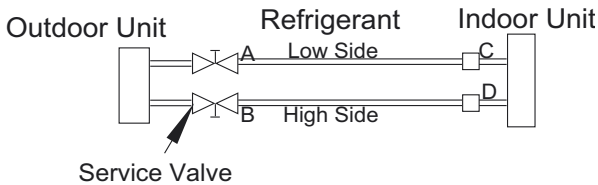

Fig. 14 – Service Valve
- 1 Completely tighten all flare nuts and connect manifold gage charge hose to a charge port of the low side service valve (see Fig. 14).